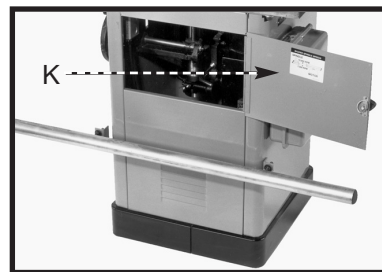

Fig. 21
5. Fasten the lower rail assembly to the front side of the shaper cabinet (Fig. 21), using the hardware From **STEP 1**.